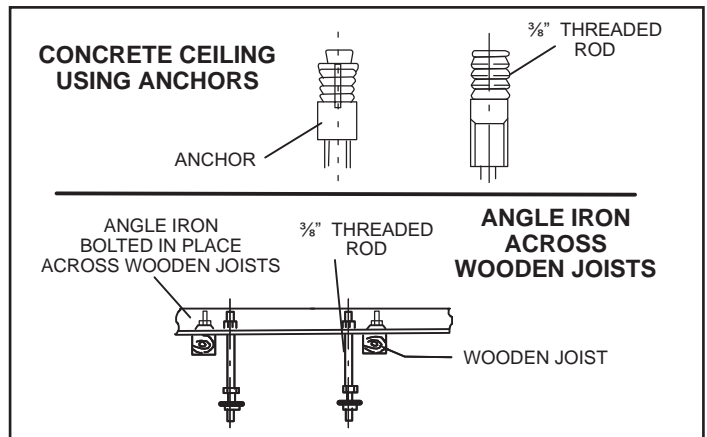

Figure 1. Suspending Methods
1. Make sure that the structural ceiling is able to support the weight of the mode selection box(es). It may be necessary to add extra support. If the structural ceiling is constructed of concrete, install anchors to accept four 3/8" threaded rods to suspend the mode selection box. If the structural ceiling includes wooden joists, use angle iron or a Unistrut channel fixed securely in place to accept the 3/8" threaded rods. See figure 1.